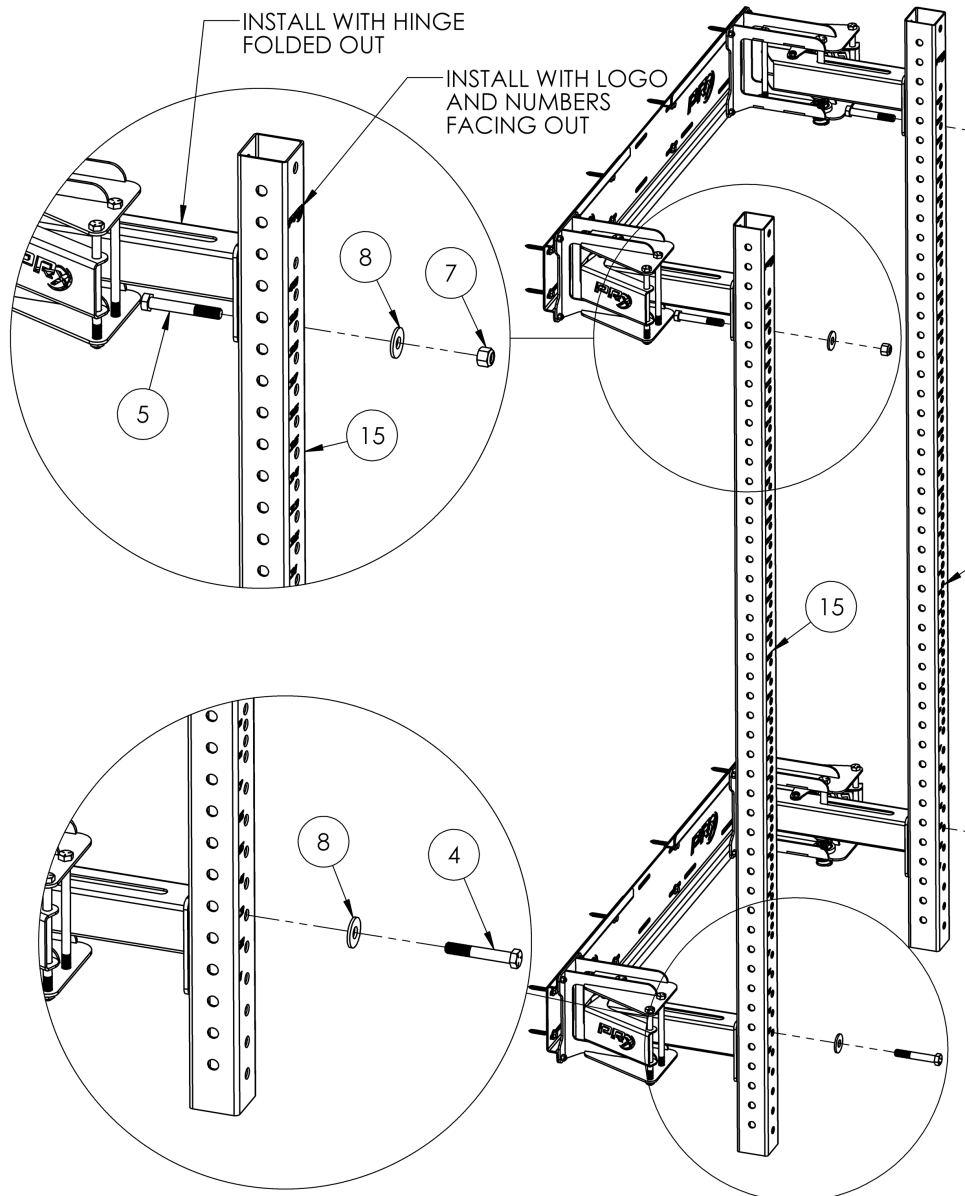

Figure 4: Attaching the first set of uprights
1. Attach the first upright (15) to the hinge at the top using one 5/8" x 4-1/4" hex bolt (5) with one 5/8" lock nut (7) and one 5/8" flat washer (8) by bolting through the back of the upright.
2. Attach the first upright to the hinge at the bottom using one 5/8" x 4" hex bolt (4) and one 5/8" flat washer (8) at the bottom by bolting through the front of the upright (**Figure 4**).